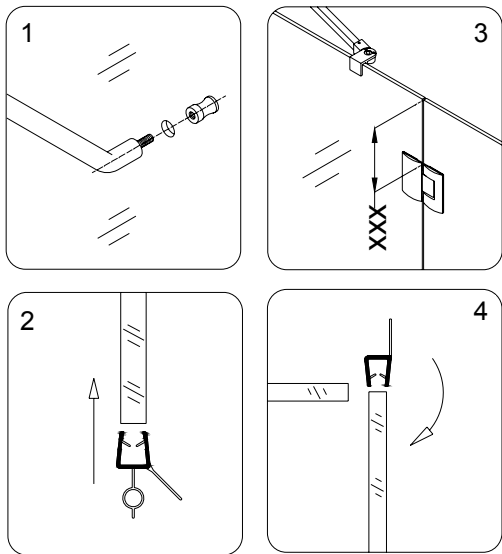

Fig 7
6. a) Mount the **Handle (06)** onto the door. See Fig. 7 (Image 1) for details.
b) Push the **Bottom anti-water strip (12)** on the bottom edge of the glass door. See Fig. 7 (Image 2) for details.
c) Measure the distance between the top edge of the glass door and upper edge of the top hinge. Cut the piece off the **Side strip (11)** with a knife according to your measurement. Repeat it to prepare the short strip for the hinge at the lower section of the glass door. Then measure the distance between the bottom edge of the top hinge and the upper edge of the bottom hinge and cut the rest of the strip to size. Open the door and push all the strip lengths onto the vertical edge of the glass door. See Fig.7 (Image 3-4) for details.